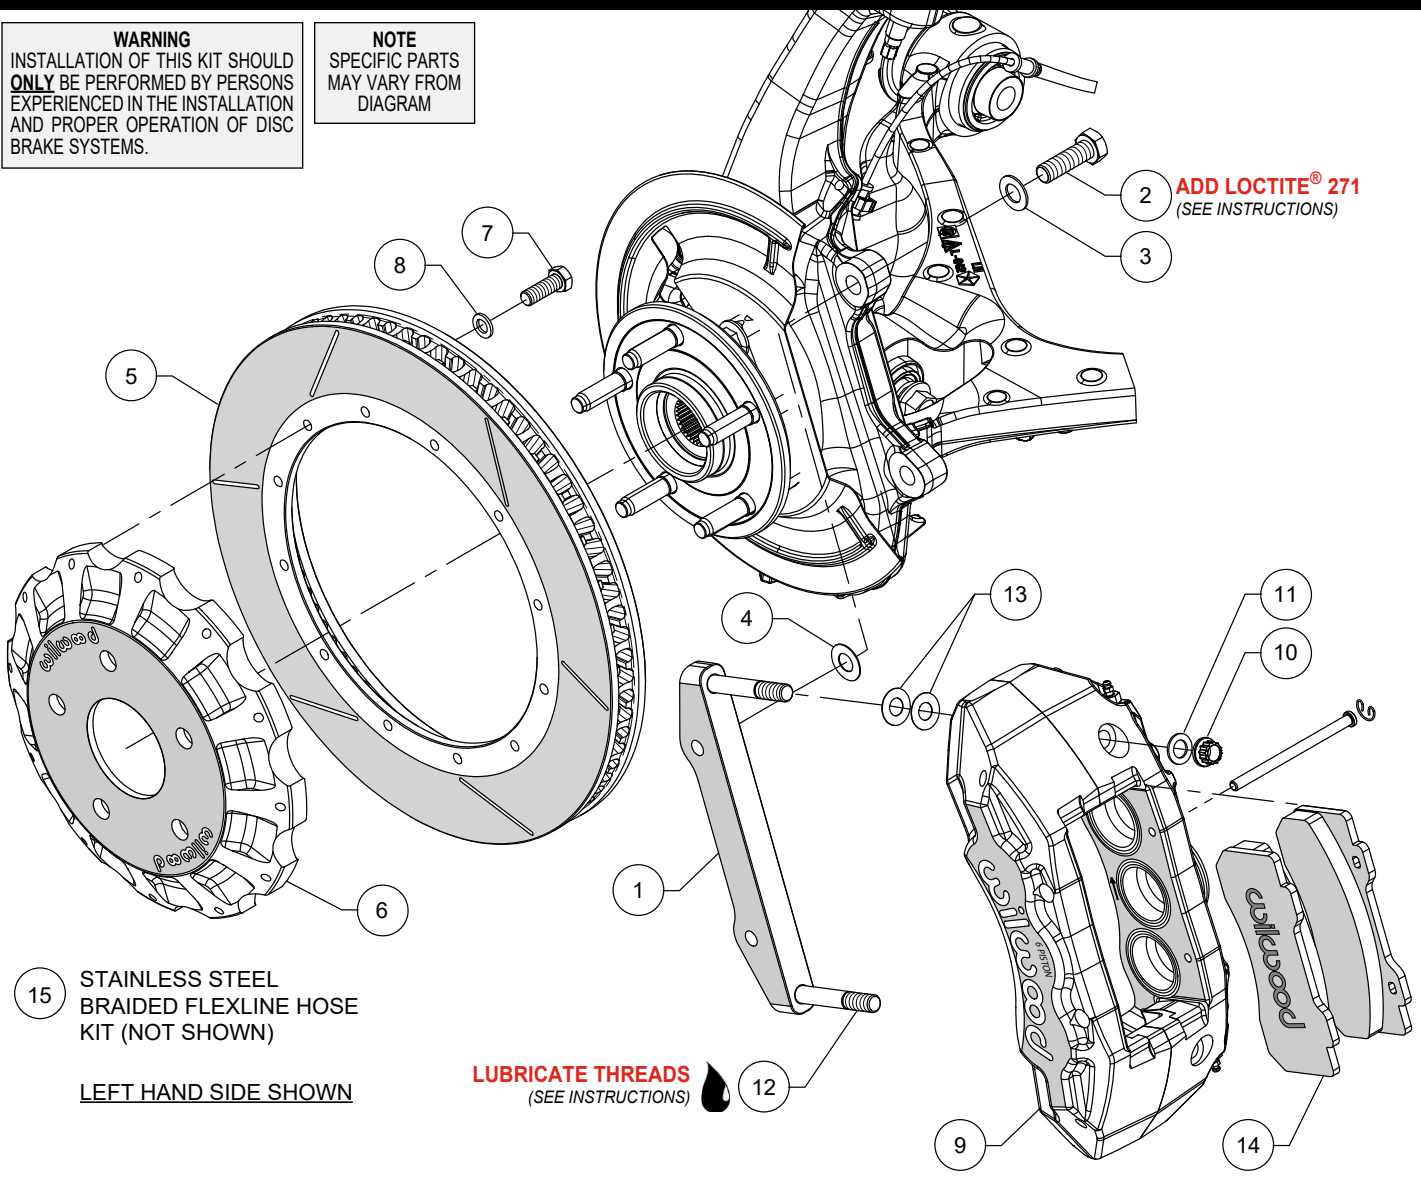

Figure 1. Typical Installation Configuration
**NOTE:** Numbers in parenthesis refer to the parts list and Figure 1 on the preceding pages.
- The caliper mount bracket (1) should initially be installed with clean, dry threads on the mounting bolts. Orient the bracket as shown in Figure 1 and Photo 1, and install using bolts (2) and washers (3). Initially place one .029 thick shim (4) on each bolt between the bracket and upright, Figure 1. Temporarily tighten the mounting bolts. **NOTE:** The bracket must fit squarely against the mount bosses on the upright. Inspect for interference from casting irregularities, machining ridges, burrs, etc. Later, after the caliper alignment has been checked, the mount bolts will be secured using red *Loctite*® 271.
- NOTE:** This kit contains distinct right and left hand calipers that must be mounted in a specific direction, as described below. Lubricate the caliper mounting studs (12) with lightweight oil. Initially place two .015" thick shims (13) on each stud as shown in Figure 1 and Photo 4. Mount the caliper (9) onto the bracket (1) using lock nuts (10) and washers (11), Figure 1. Ensure that the caliper is mounted so that the largest pistons are at the rotor exit end of the caliper, in relation to the direction of rotor rotation. Temporarily tighten the lock nuts and view the rotor through the top opening of the caliper. The rotor should be centered in the caliper, Photo 5. If not, adjust by adding or subtracting shims (4) between the bracket and the upright. Always use the same amount of shims on each of the two mounting bolts. Once the caliper alignment is correct, remove the bracket mounting bolts (2) one at a time, apply red *Loctite*® 271 to the threads, and torque to 77 ft-lb.